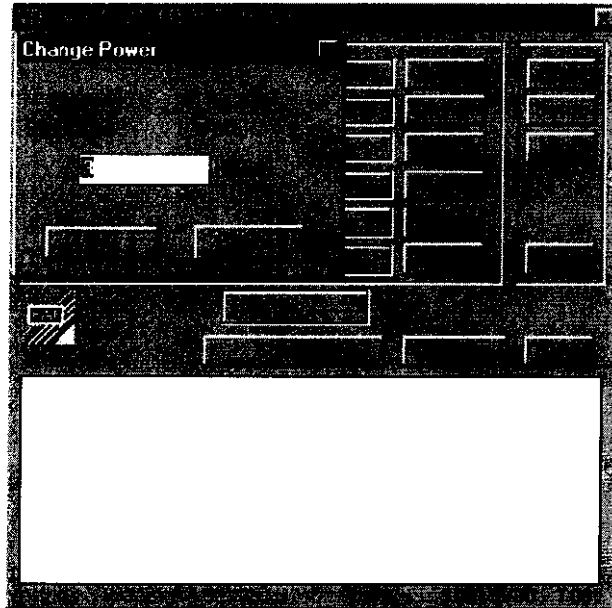

Fig 12 Setting the Transmitter Output Power
- Check that the Change Power screen is superimposed (see Fig 12).
- Using the mouse, click in the box showing the current number of Watts (Fig 12 shows 3 watts). Delete the current value and enter the required value from the PC's keyboard.